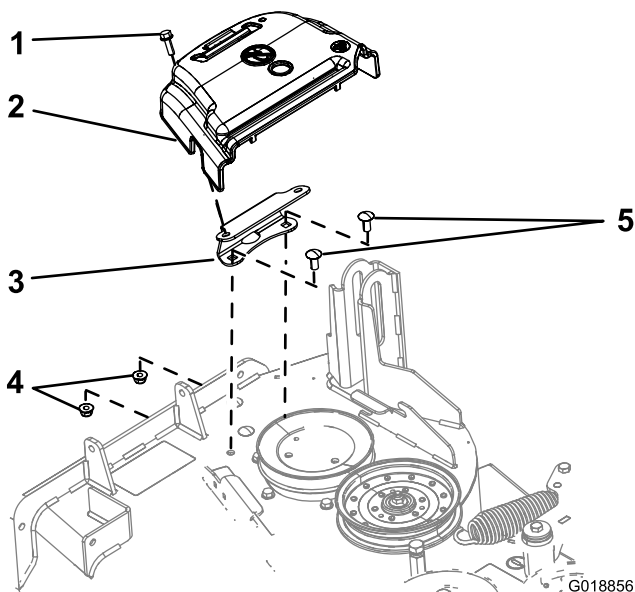

Figure 3
2. Rotate the bolt that secures the belt cover to the counterclockwise to loosen it (Figure 3).
3. Remove the belt cover and bolt from the mounting bracket (Figure 3).
1. Remove the 2 bolts and 2 flange nuts that secure the cover mounting bracket to the deck (Figure 3).
1. Remove the 2 carriage bolts (1/4 x 3/4 inch) and 2 locknuts (1/4 inch) that secure the belt cover bracket to the forward flange of the mower deck (Figure 3).
2. Remove the belt cover bracket from the mower deck (Figure 3).